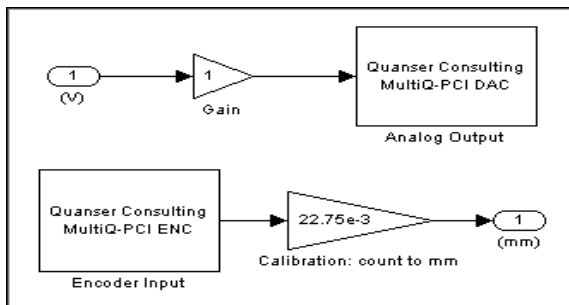

Figure 18 IP02 Subsystem
Step 1. Start a fresh Simulink diagram and create a model that contains a subsystem that has the IP02 motor voltage as input and the encoder reading (in mm) as output. Such a subsystem (a.k.a. block) can be seen in Figure 18, below, as combining the models designed previously in Sections Applying a Voltage to the DC Motor and Measuring from the IP02 Cart Encoder.